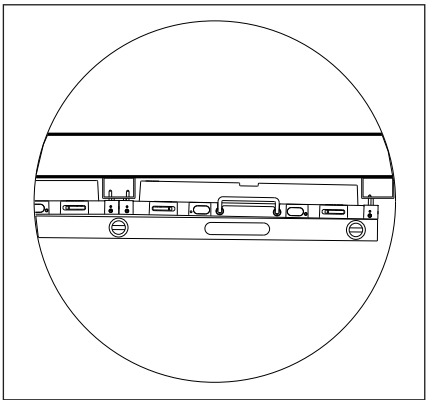

Figure 21: Verify Flatness
- b. Verify flatness by laying a 4' level across the face to ensure the combined face of both panels is straight and flat. Check both ends of the panel. Refer to **Figure 21**.